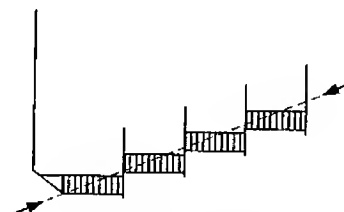

Figure 5. Sub Hue
7. Set the data with numeric keys 2 - 7 for waveform shown in Figure 5.